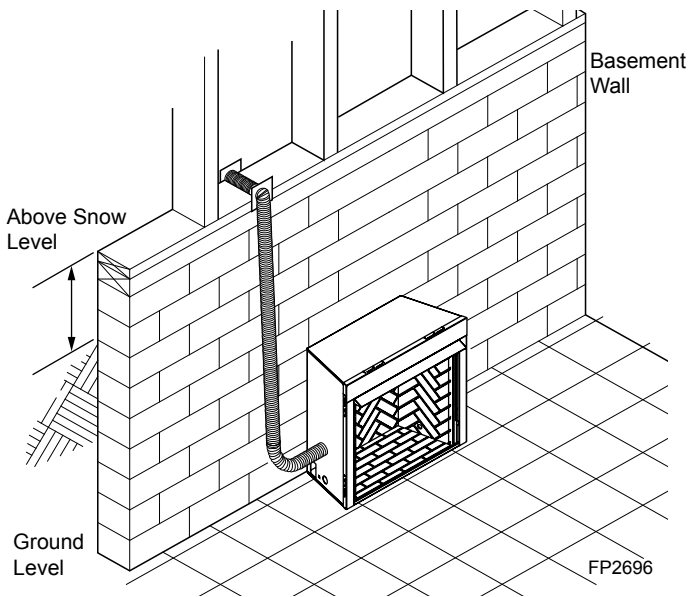

Figure 12 - Basement Installation
6. Avoid extremely long runs and numerous turns in the duct leading from the fireplace to the combustion air assembly. These conditions increase the resistance to the free flow of air through the duct. *Refer to Figures 12 through 15* for methods of installing the outside air for combustion assemblies.